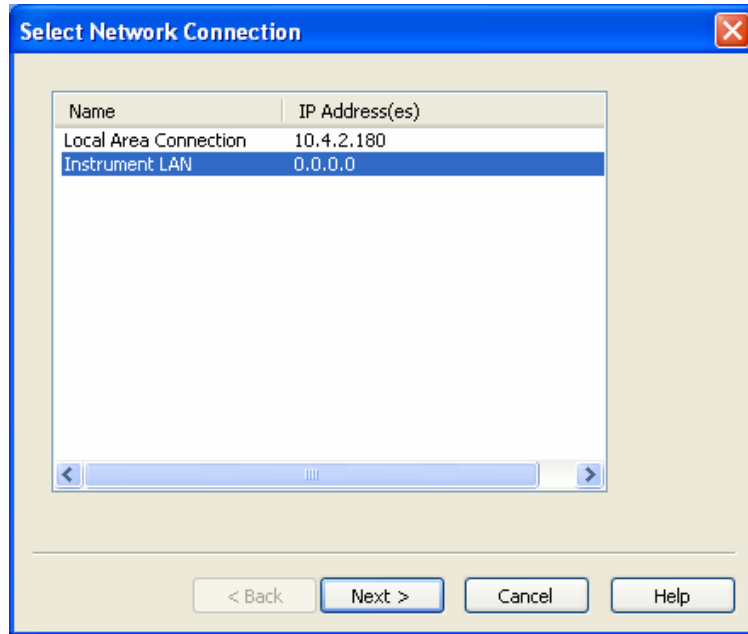

Figure 3: Select Network Connection Page
5. Select **Server > Configuration Wizard**. The Select Network Connection page appears (Figure 3).